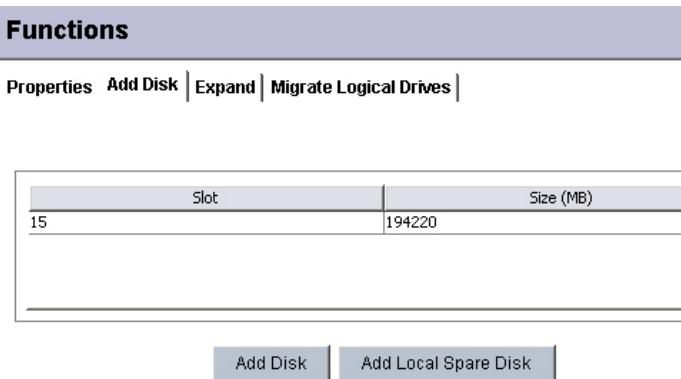

Figure 9-13: The “Add Spare Drive” Button
Step 1. Select the logical drive to which you wish to add a dedicated spare from the list of the logical drives above. In the Functions window, click the **Add Disk** tab. The functional window is accessed from the Existing Logical Drives window as shown in **Figure 9-13**, the **Add Spare** button appears next to the **Add Disk** button.